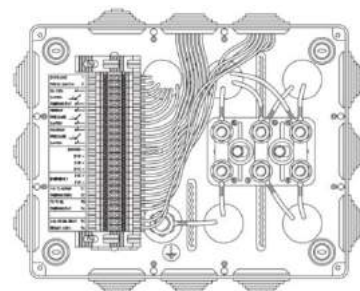

Figure 15 – Connection box for wired pump unit
- The pump unit box, cabled (optional), includes (see Figure 15):